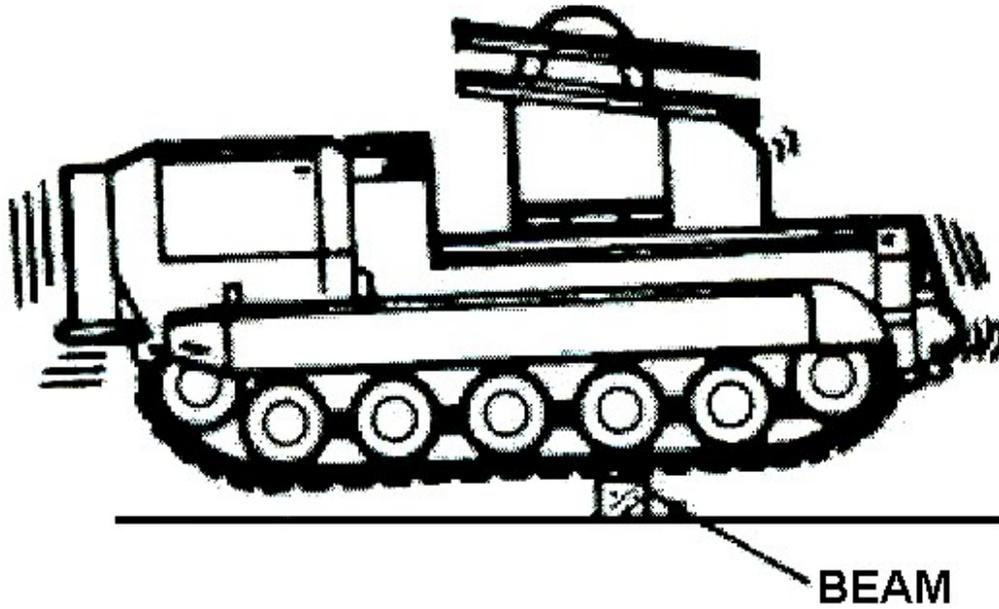

Figure 3-122
8. Direct personnel to determine the center of balance of a tracked vehicle using prescribed procedures (see Figure 3-122).